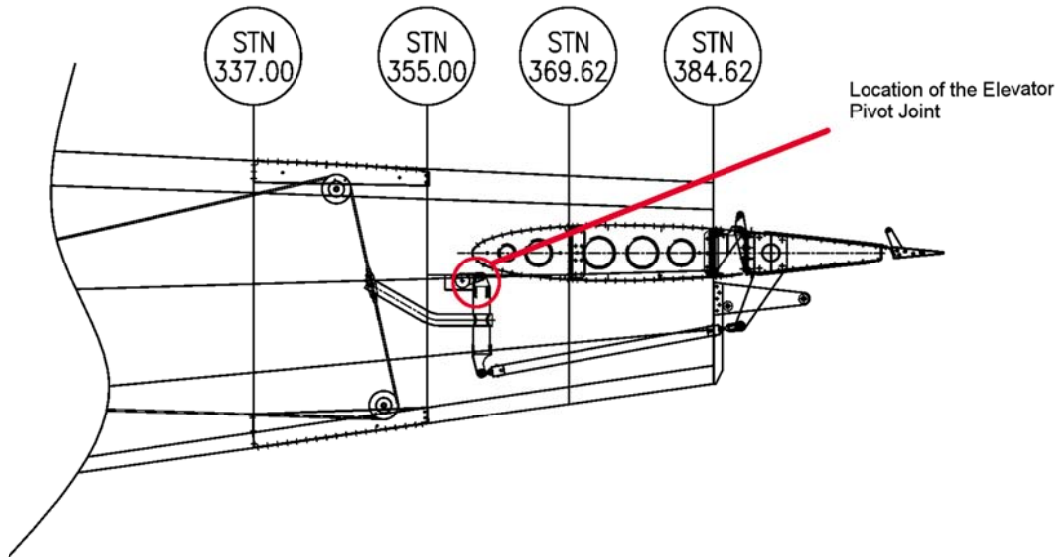

FIGURE 1 LOCATION OF ELEVATOR PIVOT JOINT
(Refer to Figures 1 and 2)
- 1) Remove the Control cable cover (Ref. 750XL MM, Chapter 12-00-00, p. 301, Panel F5) to access area of the Elevator Bellcrank Pivot joint (See Figure 1).